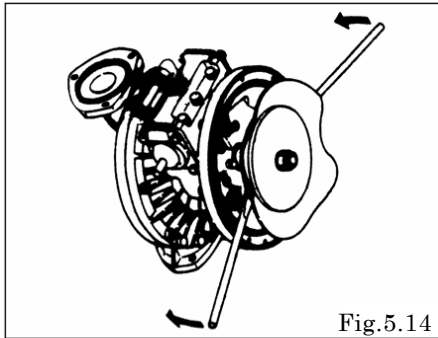

Fig. 5.14
- Grip the inside center disk using crowbars and draw it to the opposite side, then turn the diaphragm over. (exclude B□H, B□S, B□H/T type) [Fig. 5.14, 5.15]